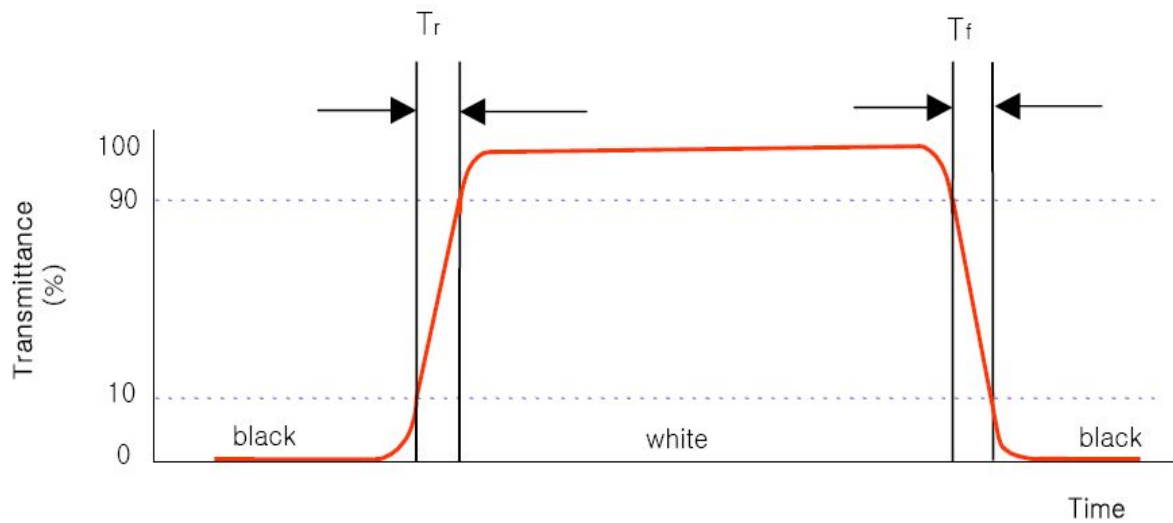

FIG.3 The definition of Response Time
3. Response time is the time required for the display to transition from black to white (Rise Time, Tr) and from white to black(Decay Time, Tf). For additional information see FIG 3.